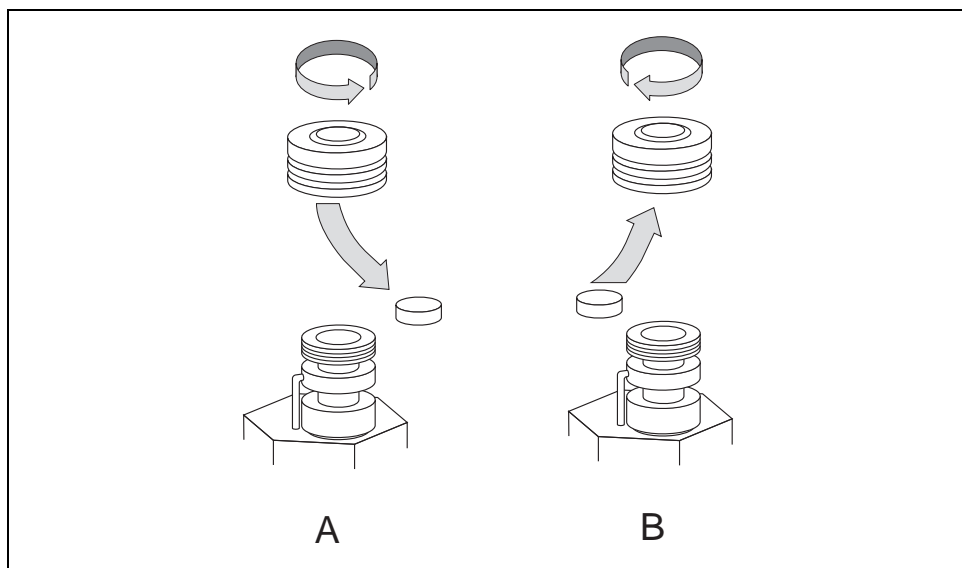

Figure 15-9. PPKD Injector Septum Replacement
5. Remove the septum using a non metallic sharp. See A of Figure 15-9
6. Insert a new septum into the septum cap. See B of Figure 15-9.